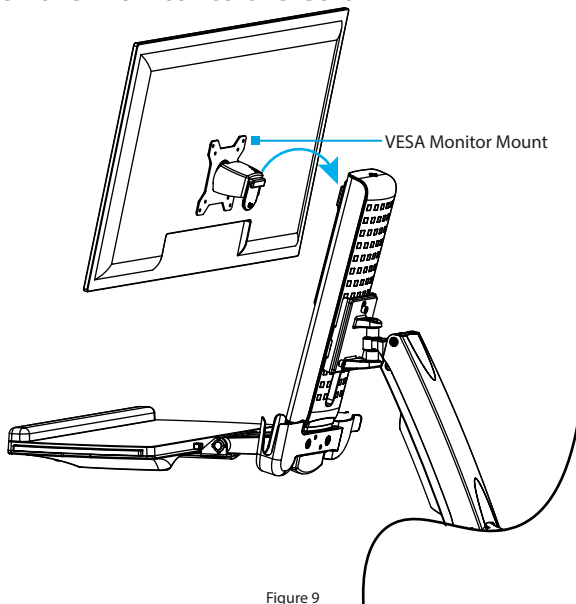

Figure 9
1. Hook the back of the **VESA Monitor Mount** onto the **Plate**, located on the **Column**. (Figure 9)